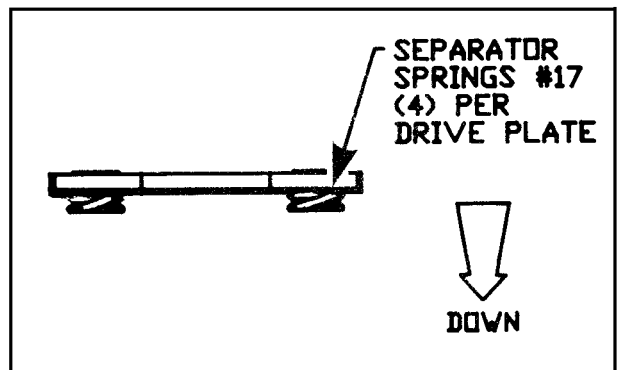

Figure 3-8
2. Install separator springs on drive plates #18 (See figure 3-8). Simply snap the springs over the large end of the rivets in drive plates #18. Install four springs per drive plate.